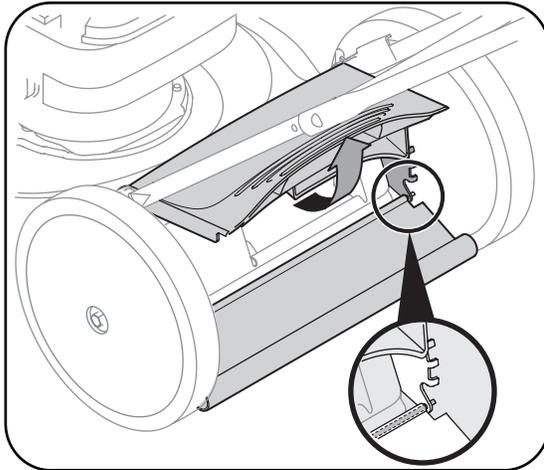

Figure 5-3
1. To remove rear flap, lift rear door, and press flap in on either side to remove from hole. See Figure 5-3.